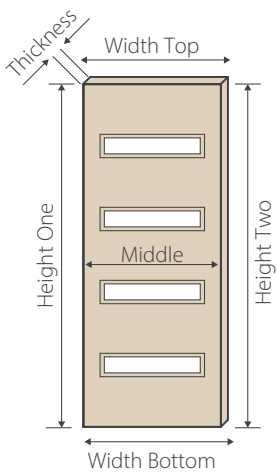

FIGURE 1:
- Tools required – drill, screwdriver, chisel (25mm), hole saws (54mm and 25mm) tape measure, hammer, small wedges (2).
- If replacing an existing door, use this door as a template to locate hinges and face hole/s onto your new door. To measure a door, see Figure 1.